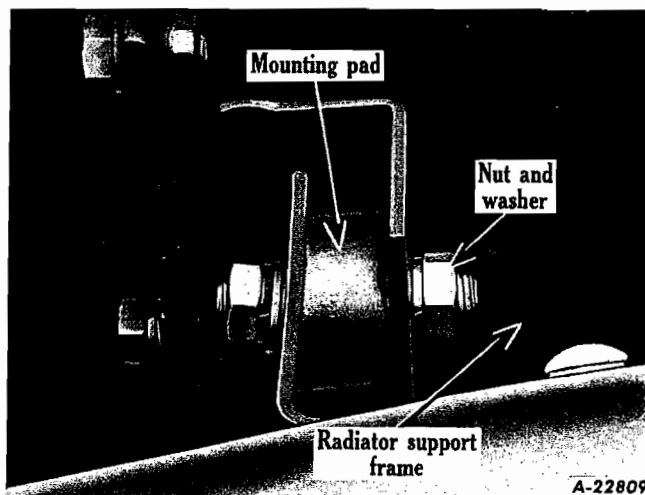

Fig. 66
6. Disconnect radiator hose clamp at radiator inlet. Pull radiator forward to facilitate removal of radiator support frame rubber pads (Fig. 66).
7. Remove the two front retaining nuts and washers (both sides) from radiator frame support pads (Fig. 66).